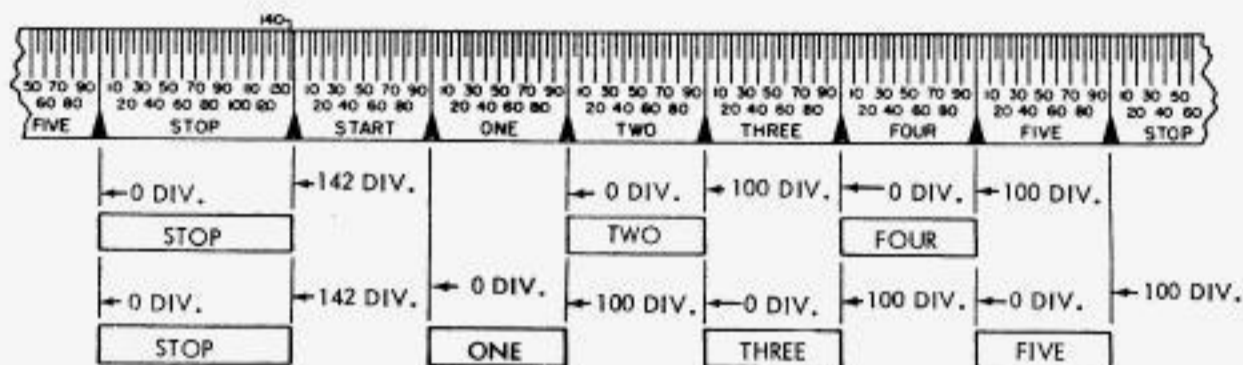

Fig. 2 — Pulse Length Requirements for Distributor Contacts No. 1 Through No. 5
(2) Replace Blank combination with an R perforated tape and orient the test-set scale to align the 142 mark of its stop segment with the end of the stop pulse image. Length of the trace for the No. 2 and No. 4 contacts shall be equal within ± 4 divisions on each end of the No. 2 and No. 4 segments of the test-set scale. (See Fig. 2.)
(3) Replace the R perforated tape with Y perforated tape and orient the test-set scale to align the 142 mark of its stop segment with the end of the stop pulse segment. Length of the trace shall be equal within ± 4 divisions on each end of No. 1, No. 3, and No. 5 segments of the test-set scale. (See Fig. 2.)